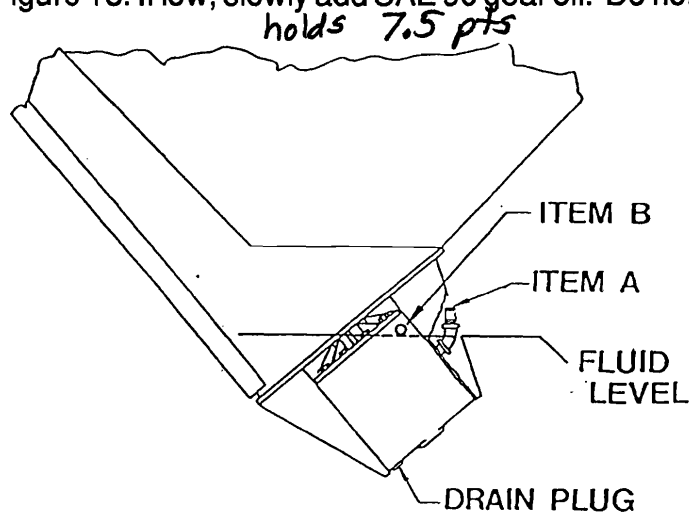

FIGURE 18: GEAR BOX MAINTENANCE
3. Fluid level should be at bottom of sight plug opening, which corresponds with approximately half-way up on filler opening elbow. Note indicated fluid level line in Figure 18. If low, slowly add SAE 90 gear oil. Do not overfill.
3. If okay, refill with approximately eight pints of an extreme pressure SAE 90 weight gear oil until level is as indicated in Figure 18.